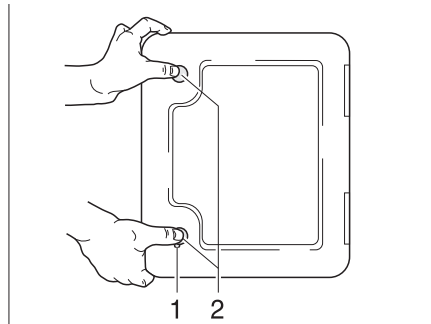

Fig. 143 Flap for the toilet cassette
- Open the flap for the cassette on the outside of the vehicle. Insert the key into the locking cylinder of the push-button lock (Fig. 143,1) and turn a quarter turn.
- Press both push-button locks (Fig. 143,2) simultaneously with your thumb and open the flap for the cassette.